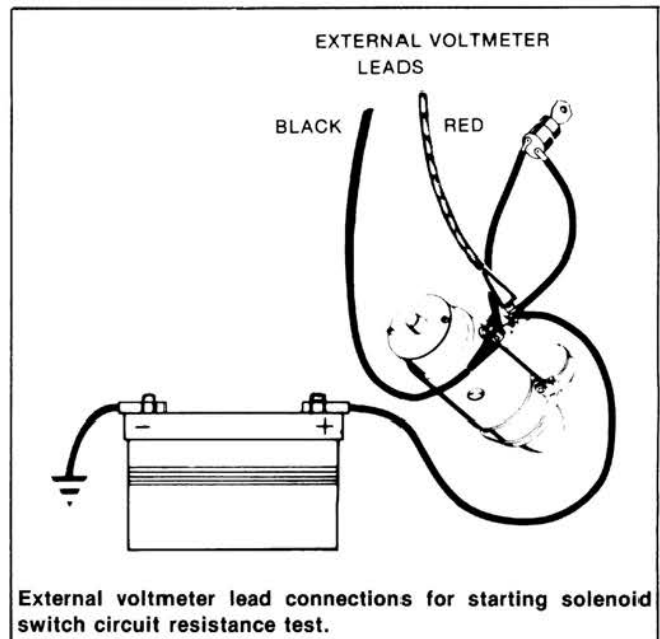

Figure 9
- Observing polarity, connect volt leads to both solenoid switch terminals as shown in Figure 9.